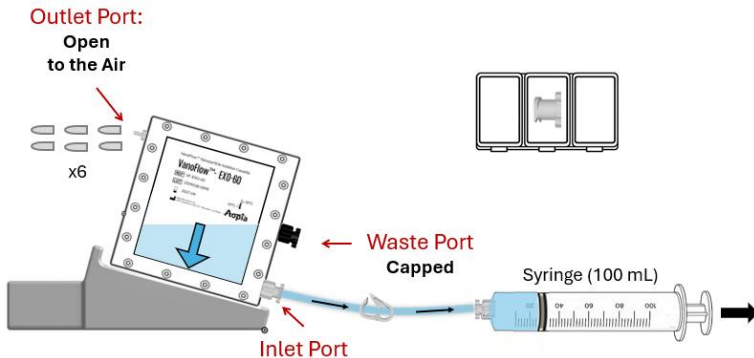

Figure 5 - Storage buffer removal
- Remove **All** the silicone caps (x6) from the cassette while keeping the Waste Port capped. Connect a syringe to the Inlet Port and draw the cassette storage buffer from the cassette, as shown in Figure 5.